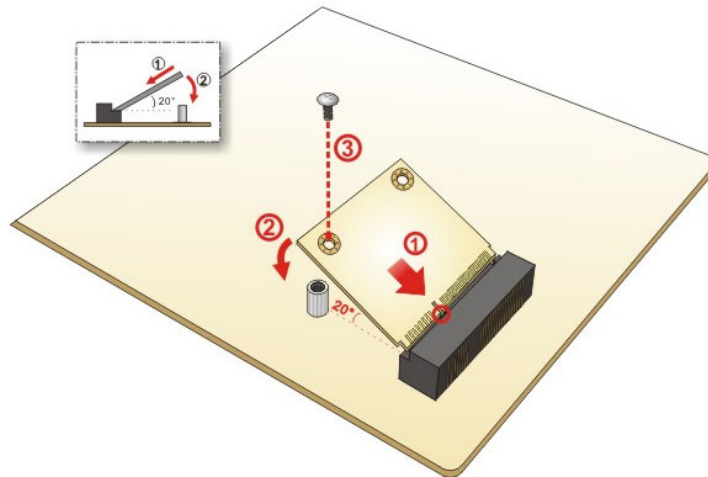

Figure 3-7: mSATA Module Installation
Step 3: Line up the notch on the mSATA module with the notch on the connector. Slide the mSATA module into the socket at an angle of about 20° (**Figure 3-7**).
Step 4: Press the other end of the mSATA module down and secure the module with the previously removed retention screw (**Figure 3-7**).